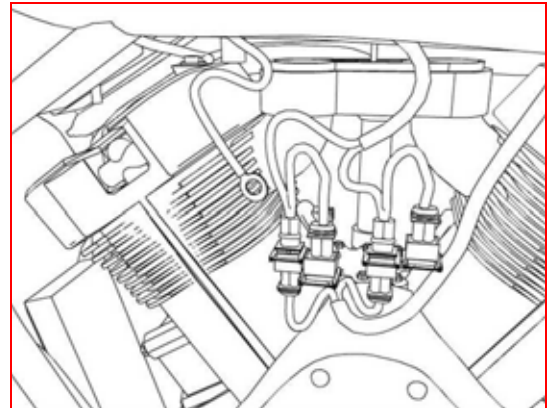

Fig 13
13. Connect the TFI harness to the stock harness. Pay attention to the color-coding. It is essential the connectors be installed properly at the front and rear injectors. (See figure 13)